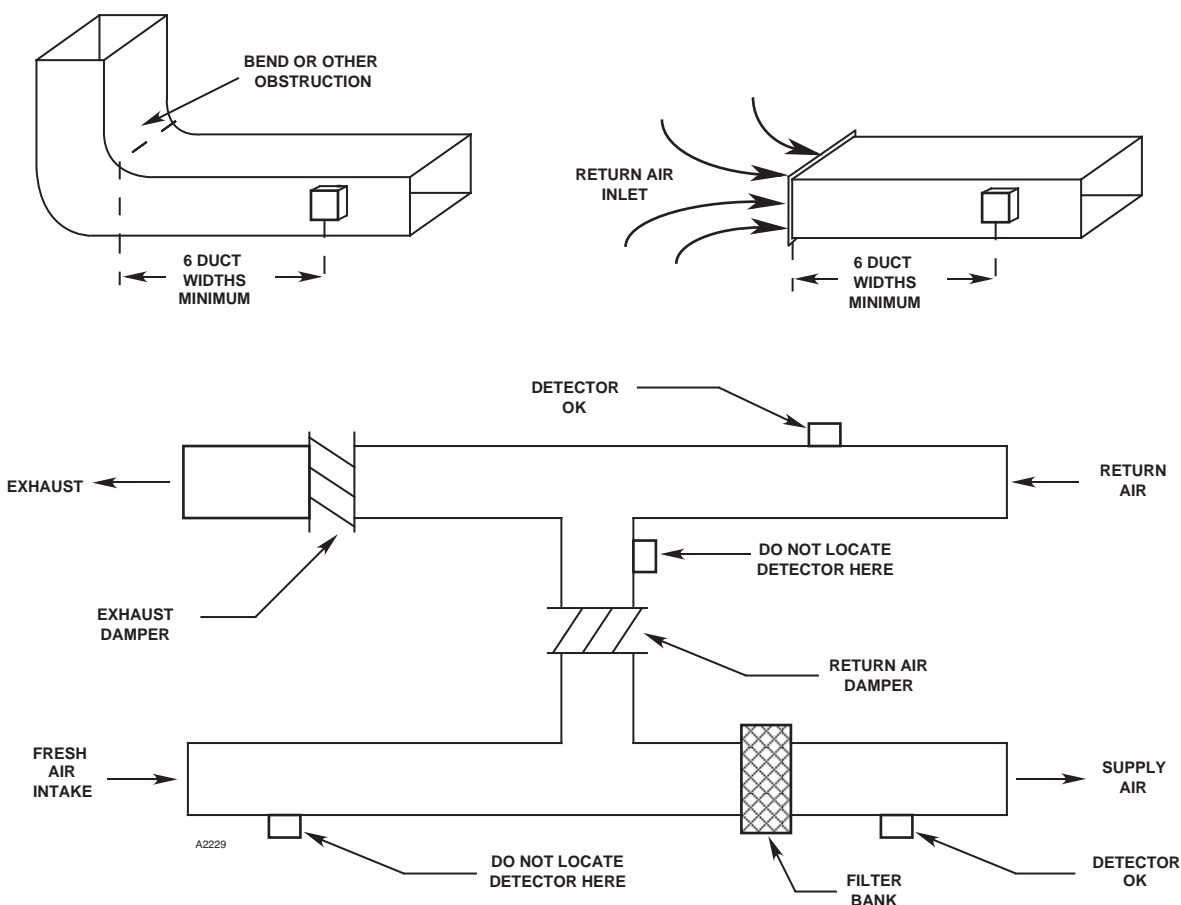

Figure 6—Detector Placement
1. Detectors should be installed approximately six duct widths downstream from bends, duct openings, or deflection plates. These locations provide fairly uniform, non-turbulent airflow, and are homogenous with respect to air/gas mixing. See Figure 6.